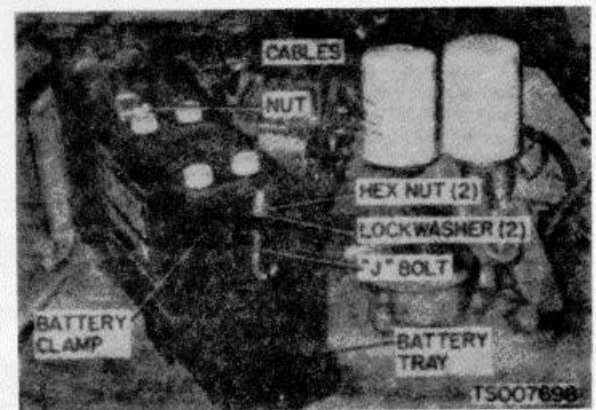

Figure 4-25. Battery and Cables, Removal and Installation
(1) Swing out the right engine side panel and swing out the battery tray to provide access to the battery (fig. 4-25).
(1) Loosen the nuts (fig. 4-25) that secure the battery cables to the battery posts; remove the cables.
(2) Remove the battery from the truck as shown in figure 4-25.
(1) Clean the battery tray and clamp by flushing with a solution of baking soda. Flush parts until bubbling stops when new solution is applied.
(2) Inspect the battery for loose posts, cracks, evidence of leaks, or other damage.
(3) Test the battery as directed in subparagraph b.
e. *Battery Installation.* Install as shown in figure 4-25.
(1) Loosen the nuts (fig. 4-25) that secure the cables to the battery posts; disconnect the cables. Remove the cable clamp that secures the cables to the truck frame.
(2) Remove the starting motor mounting bolt and lockwasher that secure the ground cable to the flywheel housing; remove the cable.
(3) Remove the nut and lockwasher that secure the positive battery cable to the solenoid switch mounted on the starting motor; remove the cable.
(1) Clean the cables with a cloth dampened in dry cleaning solvent P-D-680. Clean cable clamps and lugs with a wire brush.
(2) Inspect the cables for damaged insulation, breaks, or other damage.
(3) Inspect cable clamps and lugs for corrosion, distortion, poor connections to cables, or other damage.
(4) Replace cables if defective.
h. *Cable Installation.* Install as shown in figure 4-25. Make sure the negative terminal is connected to ground.